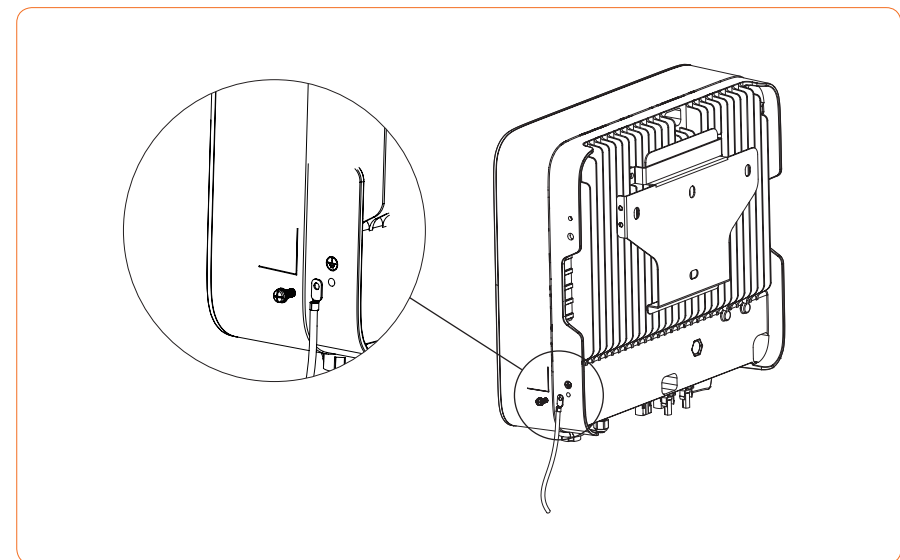

Figure 4-9 Grounding terminal connection
- ① The external grounding terminal is located in the lower right side of the inverter.
- ② Fix the grounding terminal to the PE wire with a proper tool and lock the grounding terminal to the grounding hole in the lower right side of the inverter, as shown in Figure 4-9.
- ③ The cross-sectional area of the external grounding cable is 4mm².